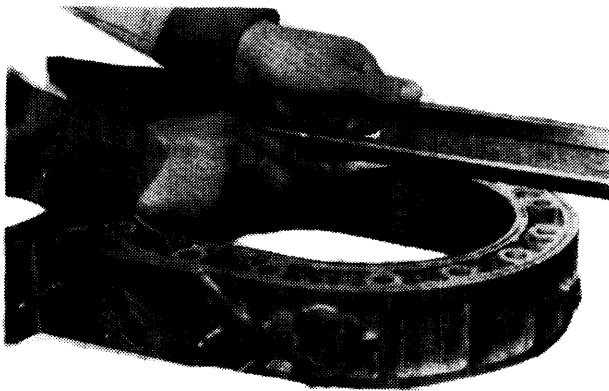

Fig. 10 Measuring Rotor Housing for Distortion
3) Place a straightedge across sealing surface of rotor housing and check for distortion, using a feeler gauge. If distortion exceeds .0016" (.04 mm), replace housing. See Fig. 10.